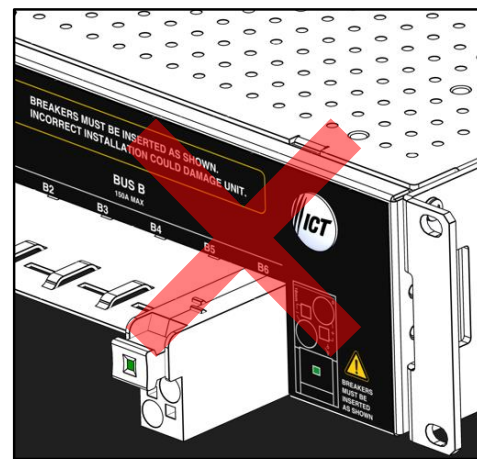

Figure 5. Correct Breaker Orientation Figure 6. Incorrect Breaker Orientation
2. Install breakers in the 12 front locations of the panel by inserting into the breaker openings (breaker switch must be on the bottom side of the unit as shown in Figure 5), ensuring that the breakers are securely seated in the breaker sockets.